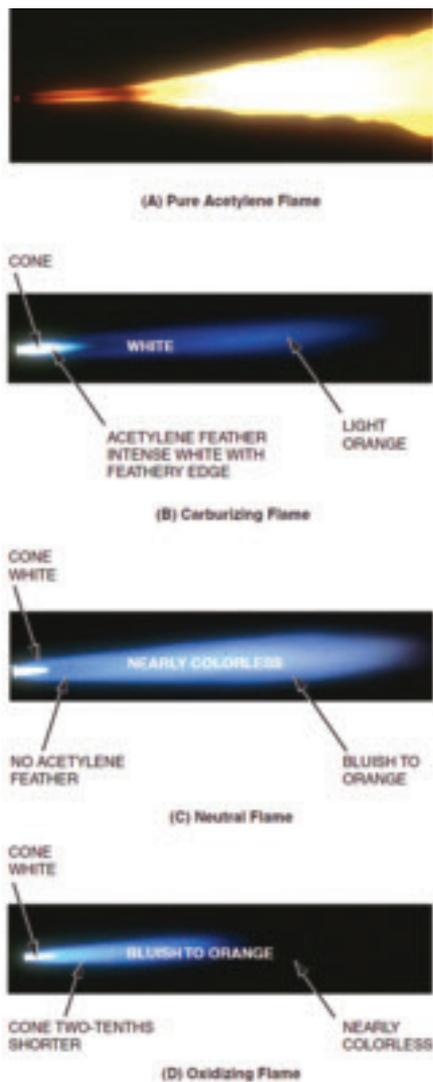

Fig. 2 — Acetylene flame color guide. From the AWS Guidelines for Hand Soldering Practices.
1. Provide training with an emphasis on proper heating and adding of filler metal. Even without seeing them in action, I would guess that the torches are set too hot. People like to hear the torches hiss. It is assumed that a hotter flame means a faster production rate. To achieve a hotter flame you crank up the oxygen. Increasing the oxygen results in an oxidizing flame. The best results in brazing, however, are achieved with a reducing flame. It also results in a less oxidized part, improving the aesthetics of the assembly and assisting the braze alloy flow. Refer to Fig. 2.